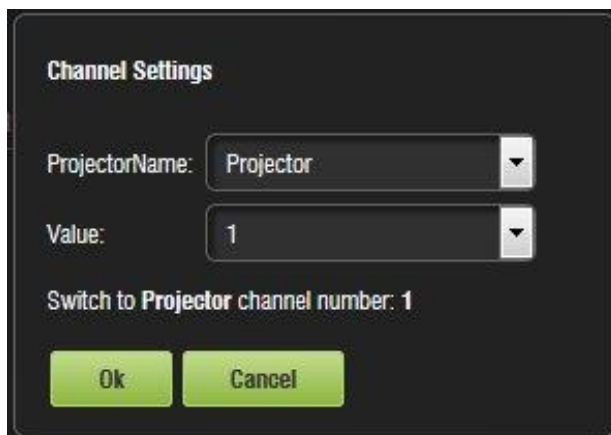

Figure 144: Add a New Action Window - Channel Switch
- The following window will appear (Figure 144):
- Choose the name of the projector from the drop-down menu window that appears (Figure 144).